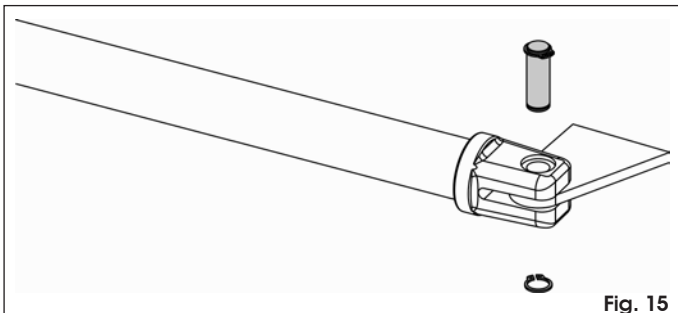

Fig. 15
7. Fit the front bracket using the pin and the supplied elastic rings (Fig. 15).